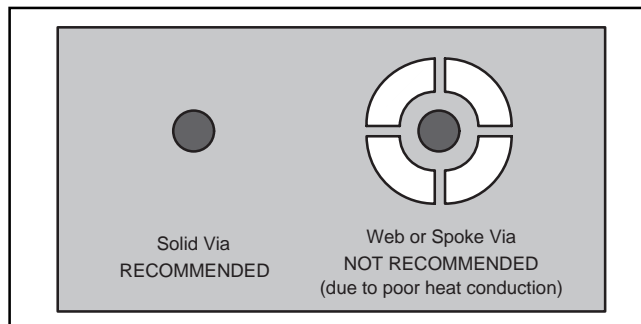

FIGURE 12. Via Connection.
6. When laying out these holes, do not use the typical web or spoke via connection methodology, as shown in Figure 12. Web connections have a high thermal resistance connection that is useful for slowing the heat transfer during soldering operations.